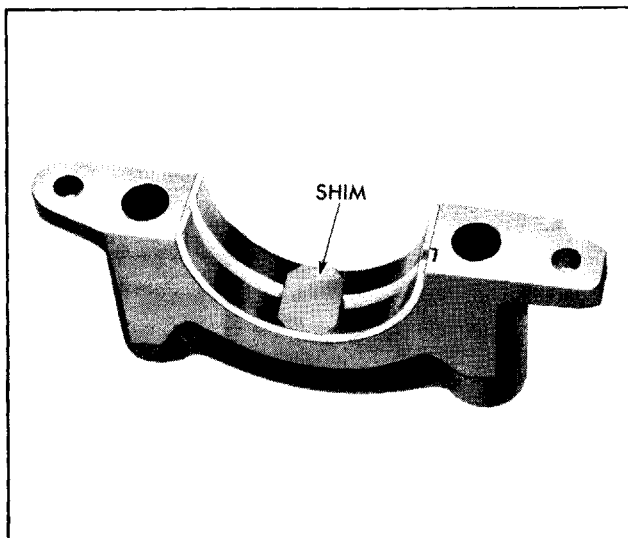

Fig. 6-73 .002" Shim Positioned in Cap for Checking Bearing Clearance
in step 6 below. Refer to Fig. 6-73 for position of shim in cap.
a. Place .0015" brass shim  $\frac{1}{2}$ " wide by  $\frac{7}{8}$ " long in bearing cap with new standard insert (Fig. 6-73) and install cap. Tighten nuts to 45 lb. ft. torque.